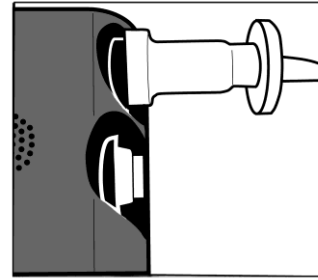

Figure 48: Replace driveline cover
9. Slide the white driveline cover up to cover **new controller's** silver connector (Figure 48).